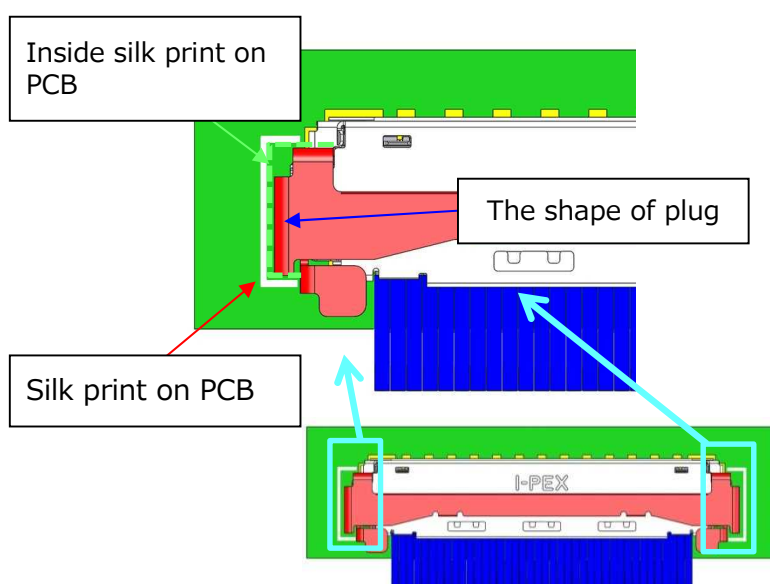

Fig.4 With Lock cover
•As shown in Fig.4 and 5, Please set it so that both ends of PLUG are located within the "[ ]" of silk print on PCB.